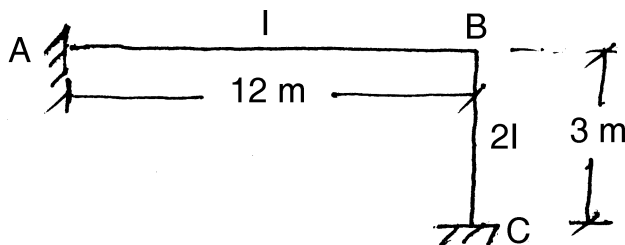

Fig. 2
- Draw ILD for B.M. at A and B of a frame shown in Fig. 2. 12